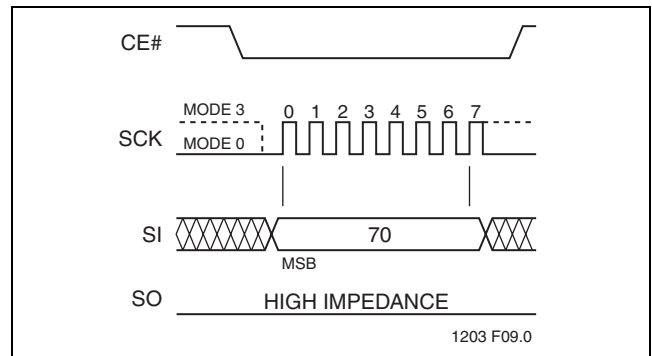

FIGURE 10: Enable SO as Hardware RY/BY# during AAI Programming
The Hardware End-of-Write detection method eliminates the overhead of polling the Busy bit in the Software Status Register during an AAI Word program operation. The 8-bit command, 70H, configures the Serial Output (SO) pin to indicate Flash Busy status during AAI Word programming, as shown in Figure 10. The 8-bit command, 70H, must be executed prior to executing an AAI Word-Program instruction. Once an internal programming operation begins, asserting CE# will immediately drive the status of the internal flash status on the SO pin. A '0' indicates the device is busy and a '1' indicates the device is ready for the next instruction. De-asserting CE# will return the SO pin to tri-state.